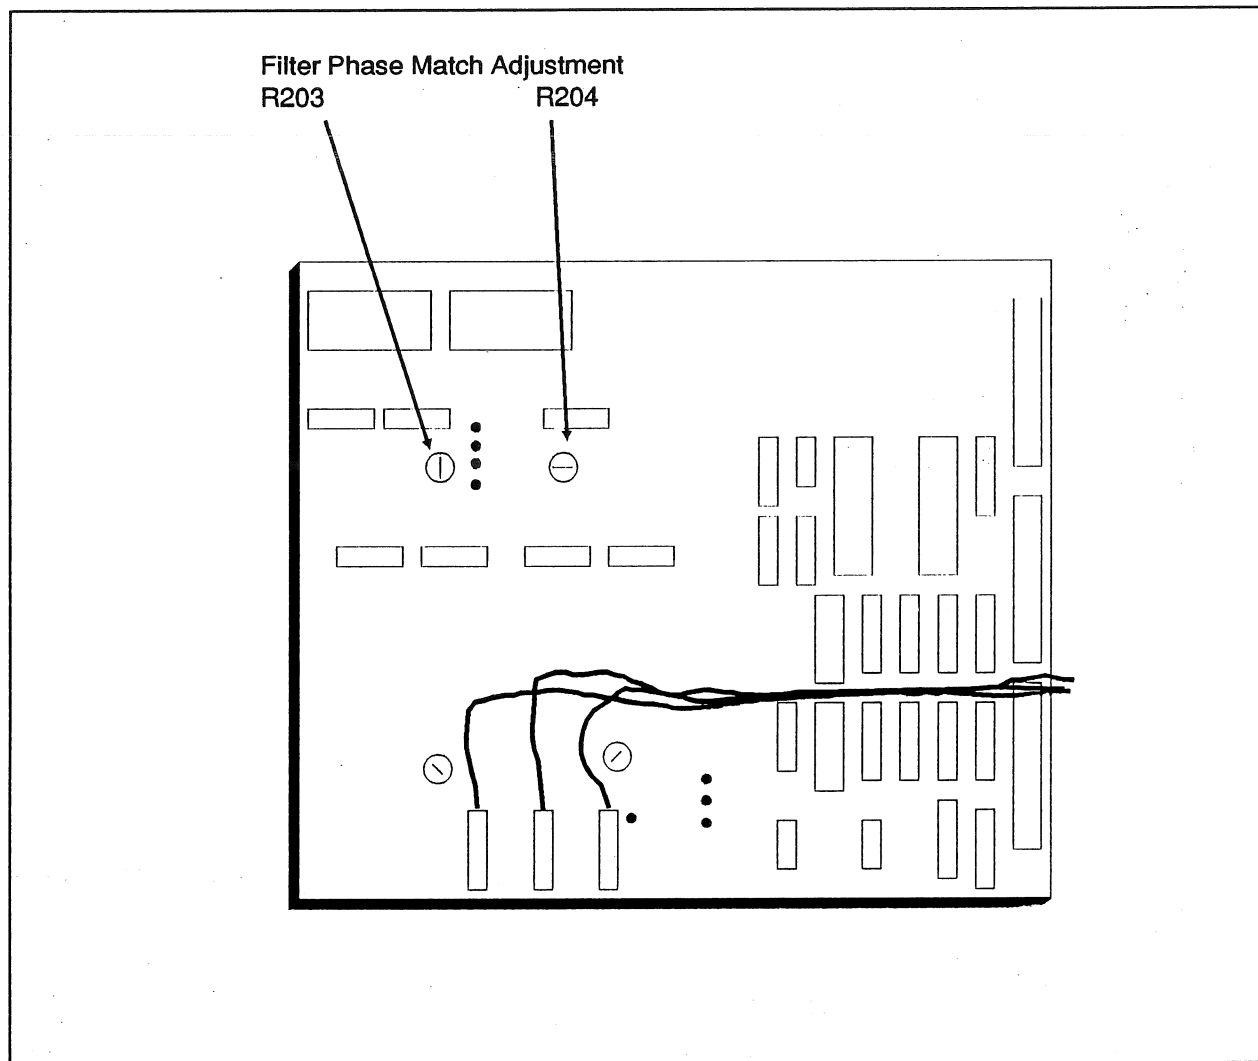

Figure 2-3. DFE Board Filter Phase Match Adjustments
- 22 Observe the lower display and adjust R203 and R204 until the phase delta from dc to 20 kHz is less than plus or minus 1 degree (you will have to run an average after each adjustment). See Figure 2-3.
- 13 Power down the 2630 and solder the resistor in parallel with R2 (see Figure 2-3). Return to Step 1 and repeat the DBE calibration test.